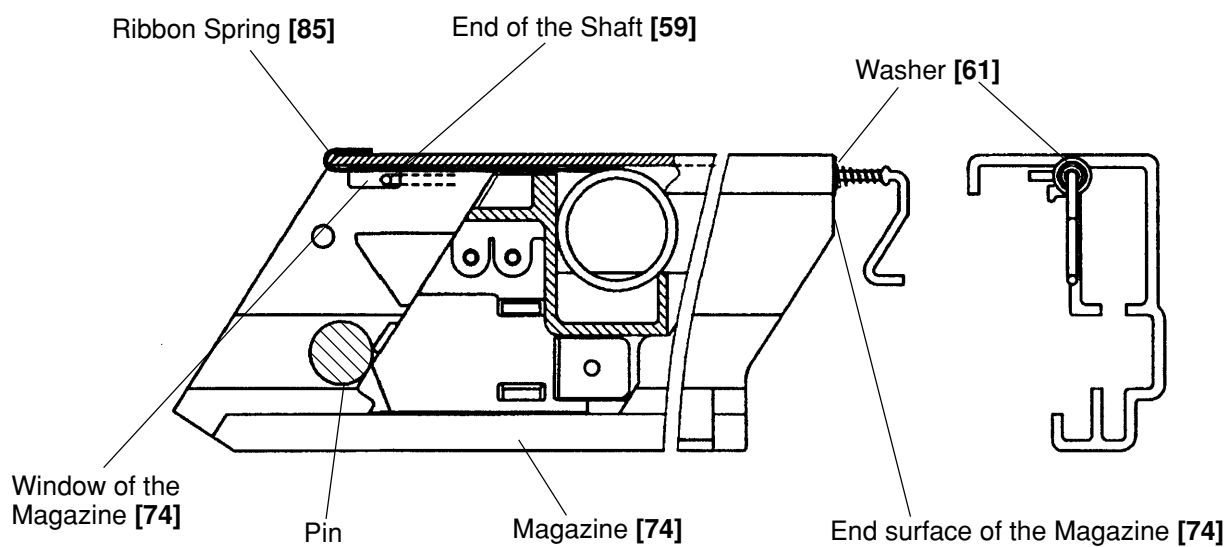
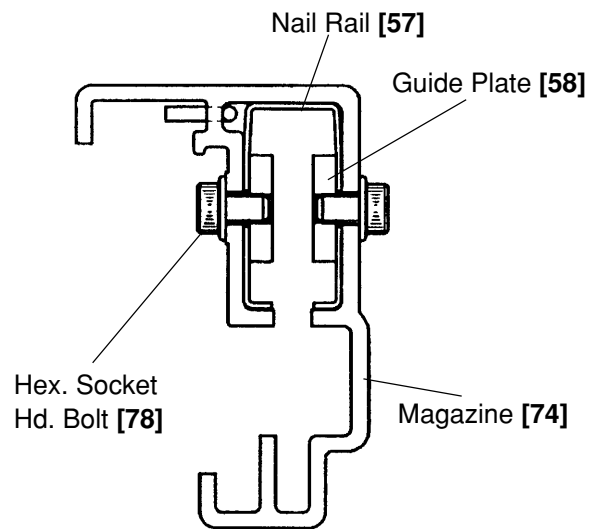

Fig.38
Fig. 39
- Insert the Shaft [59] into the Magazine [74] until the end of the Shaft [59] is shown underneath the Ribbon Spring [85]. Mount the Washer [61] at the other end of the Shaft [59] to the end surface of the Magazine [74] (Fig. 38).
- Insert the Nail Rail [57] and two Guide Plates [58] into the Magazine [74]. Align the holes of the Magazine [74] with the holes of the Nail Rail [57] and the screws of the Guide Plates [58] (Fig. 38) and secure them with seven Hex. Socket Hd. Bolts (W/Flange) M4 x 6 [78] (Fig. 39).